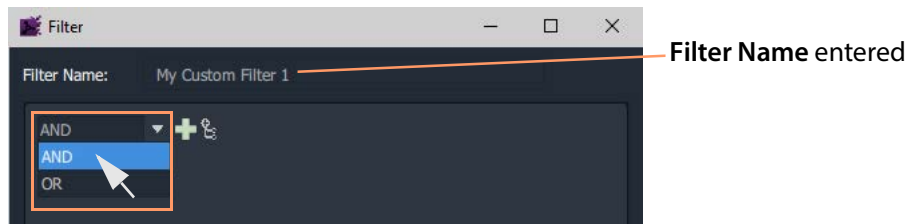

Fig. 12-57: Select AND
- 3 Select AND as the first (top-level) logical combination item with the drop-down menu button. See Figure 12-57.